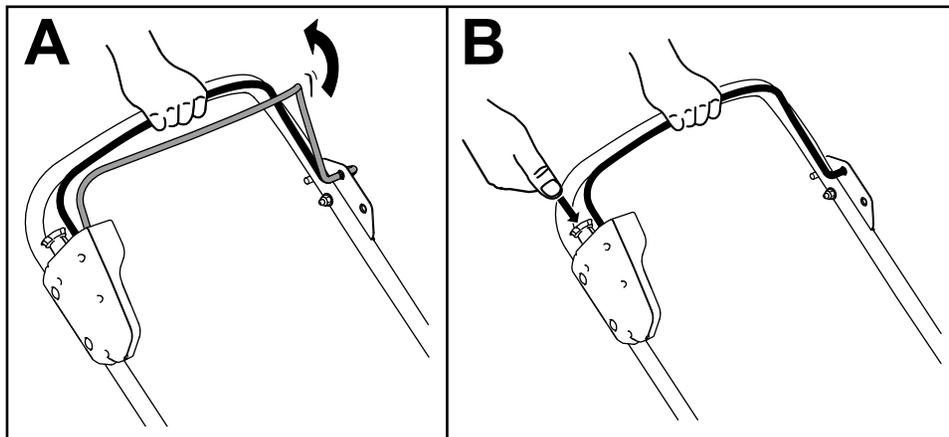

Figure 9
2. Squeeze the blade-control bar and hold it to the handle (A of Figure 9).
3. Press the electric-start button and keep it pressed until the motor starts (B of Figure 9).